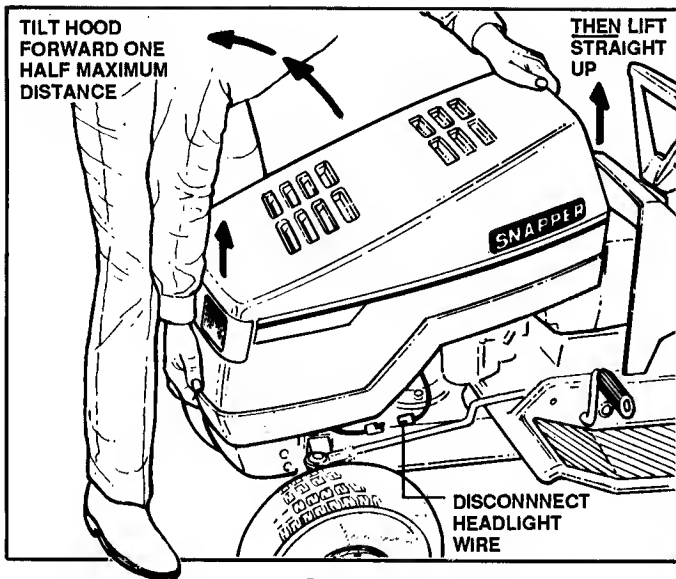

FIGURE 26
2. Tilt hood forward one half maximum distance, then lift straight up to remove. There will be some resistance from the retaining pins, requiring a slight "tug". See Figure 26.